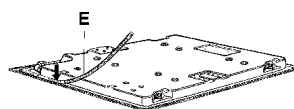

FIG. 6
- Overturn the hot plate and correctly position seal "E" (fig. 6) under the edge of the hot plate itself, so that the outer side of the seal perfectly matches the outer edge of the hot plate. The ends of the strips must fit together without overlapping.
- Overturn the hot plate and correctly position seal "E" (fig. 6) under the edge of the hot plate itself, so that the outer side of the seal perfectly matches the outer perimetral edge of the hot plate. The ends of the strips must fit together without overlapping.